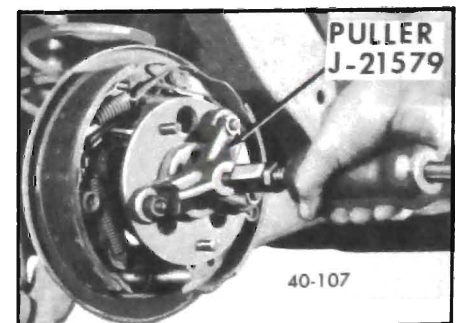

Figure 40-89 - Removing Rear Axle Shaft
4. Pull out axle shaft assemblies using Puller J-21579 with a slide hammer. See Figure 40-89.